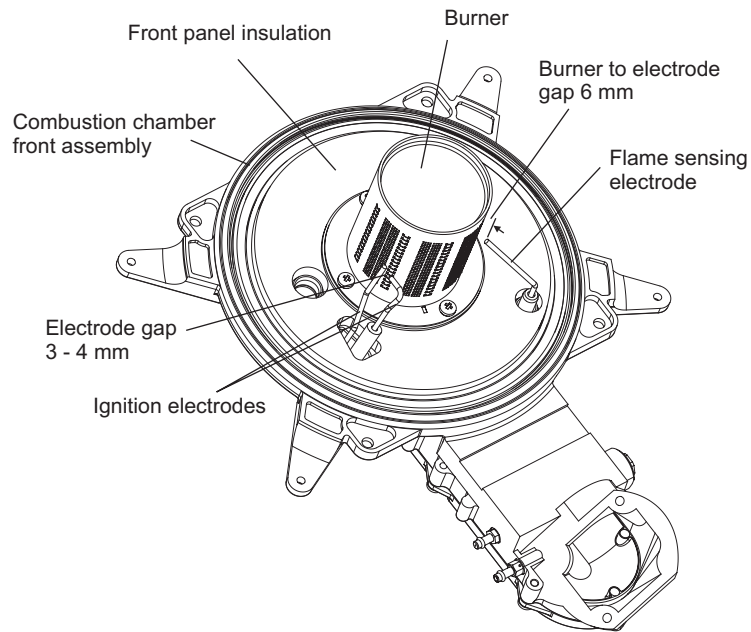

Fig. 22
6. Remove the four screws securing the burner (see Fig. 22) and remove the burner. Clean the burner with a soft brush and check that the flame ports are clear. Blockages may be removed with a stiffer brush. Tap the burner, open end down, to remove any deposits from inside.
8. Check the spark gap, positioning and height of the electrodes, see Fig. 22.
5. Place the front case panel in position and secure in position with the four screws previously removed, see Fig. 22.
7.4 MAIN BURNER - Fig. 22